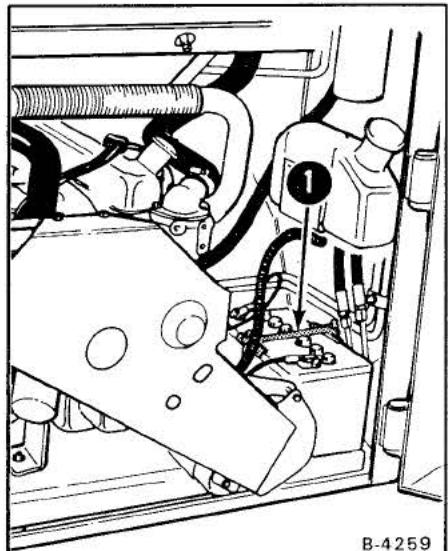

Fig. 61 Battery Holdown Clamp
2. Remove the battery holdown clamp (Fig. 61, Item 1). Remove the battery from the engine compartment.